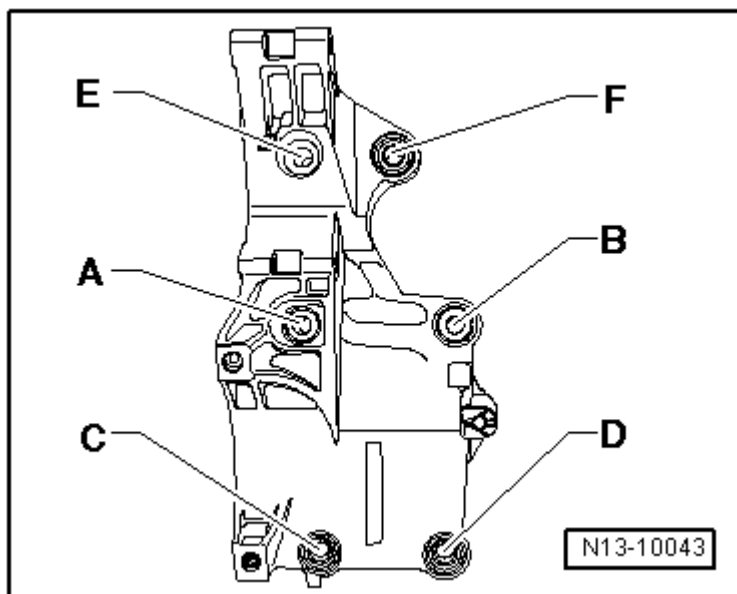

Fig. 7: Identifying Accessory Assembly Bracket Tightening Sequence
- Follow the tightening sequence, refer to **Fig. 7**.
- Tightening sequence, refer to **Fig. 7.**